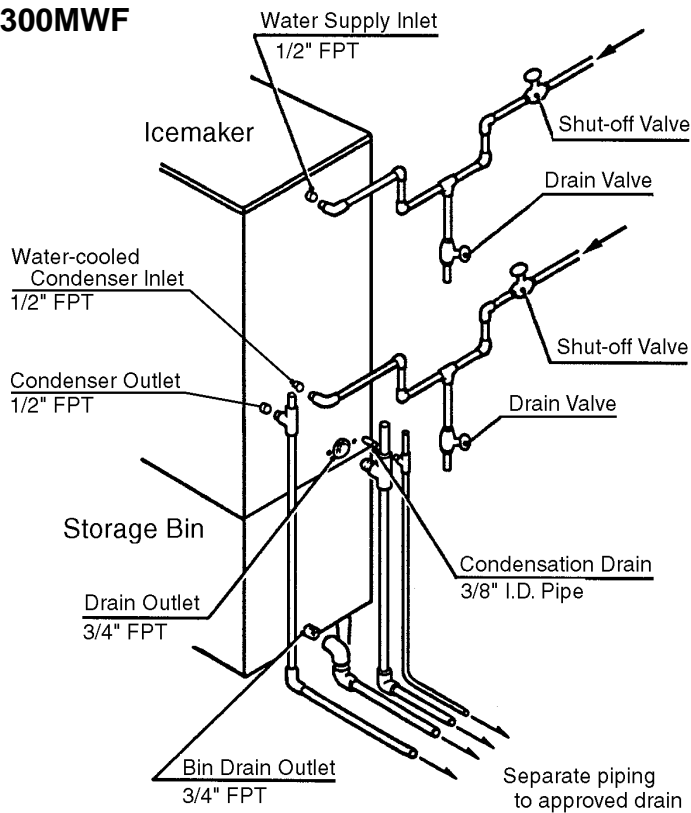

Fig. 10
7. WATER SUPPLY AND DRAIN CONNECTIONS - See Fig. 10
- 6) Close the Water-cooled Condenser Water Supply Line Shut-off Valve. See Fig. 10.
- 4) Close the Potable Water Supply Line Shut-off Valve and open the Potable Water Supply Line Drain Valve. See Fig. 10.